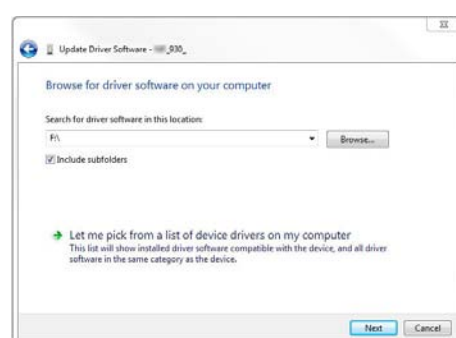

Figure 38: Select the driver source
- Select your CD-ROM drive and then click on “Next”. Let the Wizard look for appropriate drivers. Choose the driver for your Neopost printer and click on “Next” (see Figure 38).